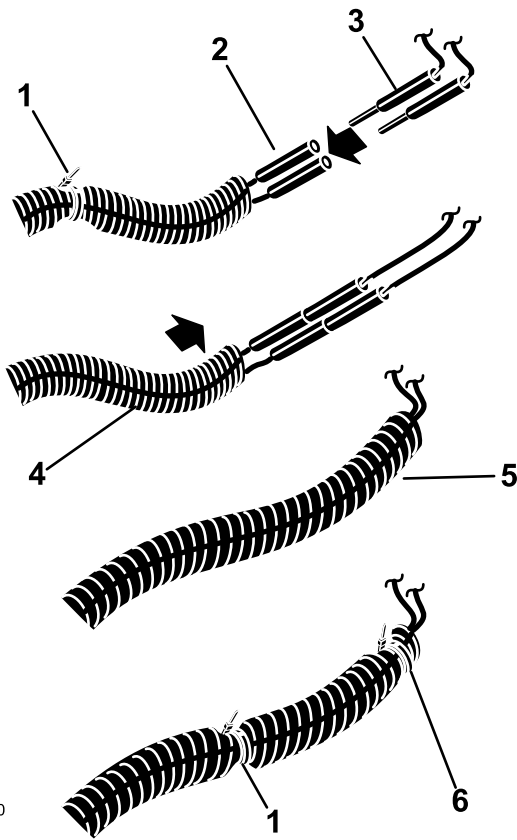

Figure 10
- Connect the lamp to the accessory harness (Figure 10).